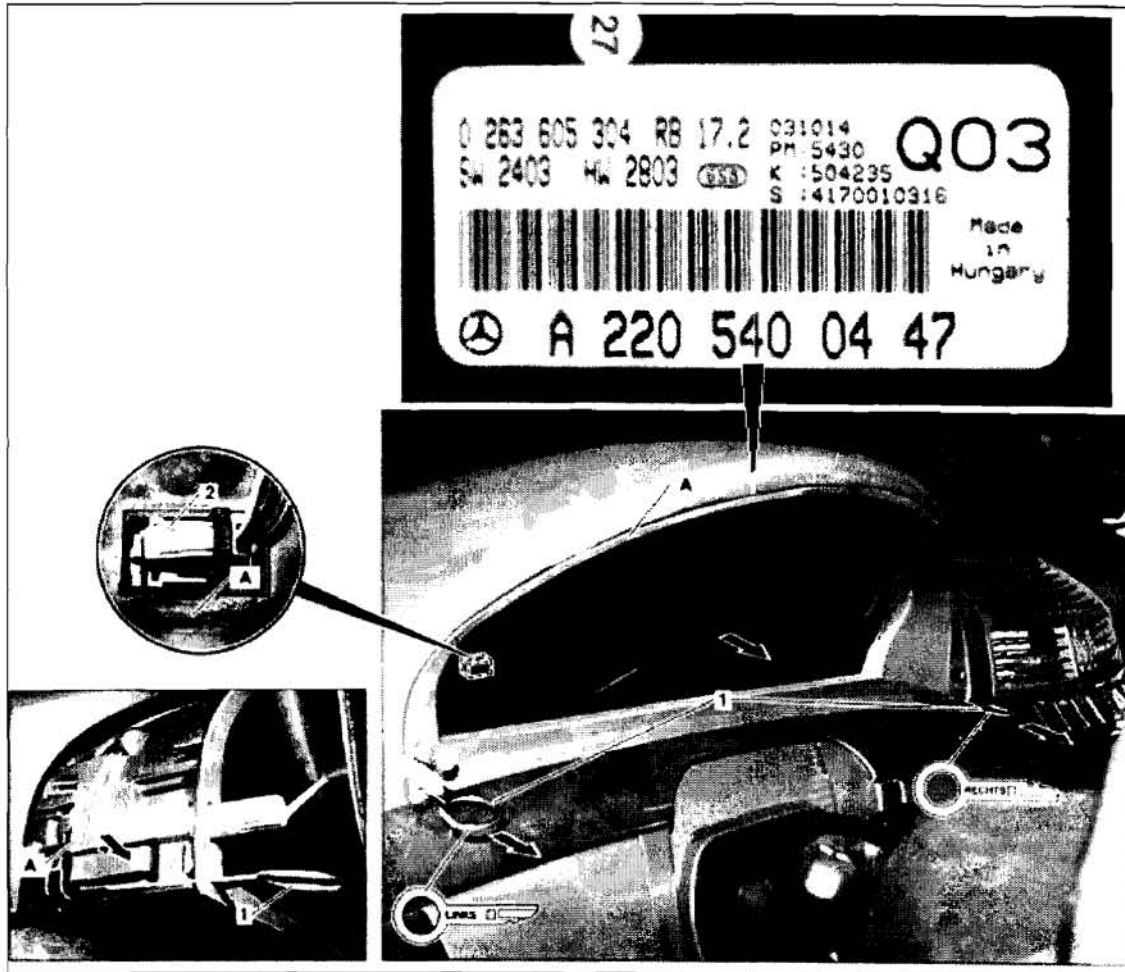

Figure 1
2. Remove instrument cluster (A, Figure 1) with connector (2) still attached.
- Use removal keys (1, Figure 1; Special Tool W 963 589 01 05 00).
3. Loosen catch of connector (2, Figure 1) and remove connector.